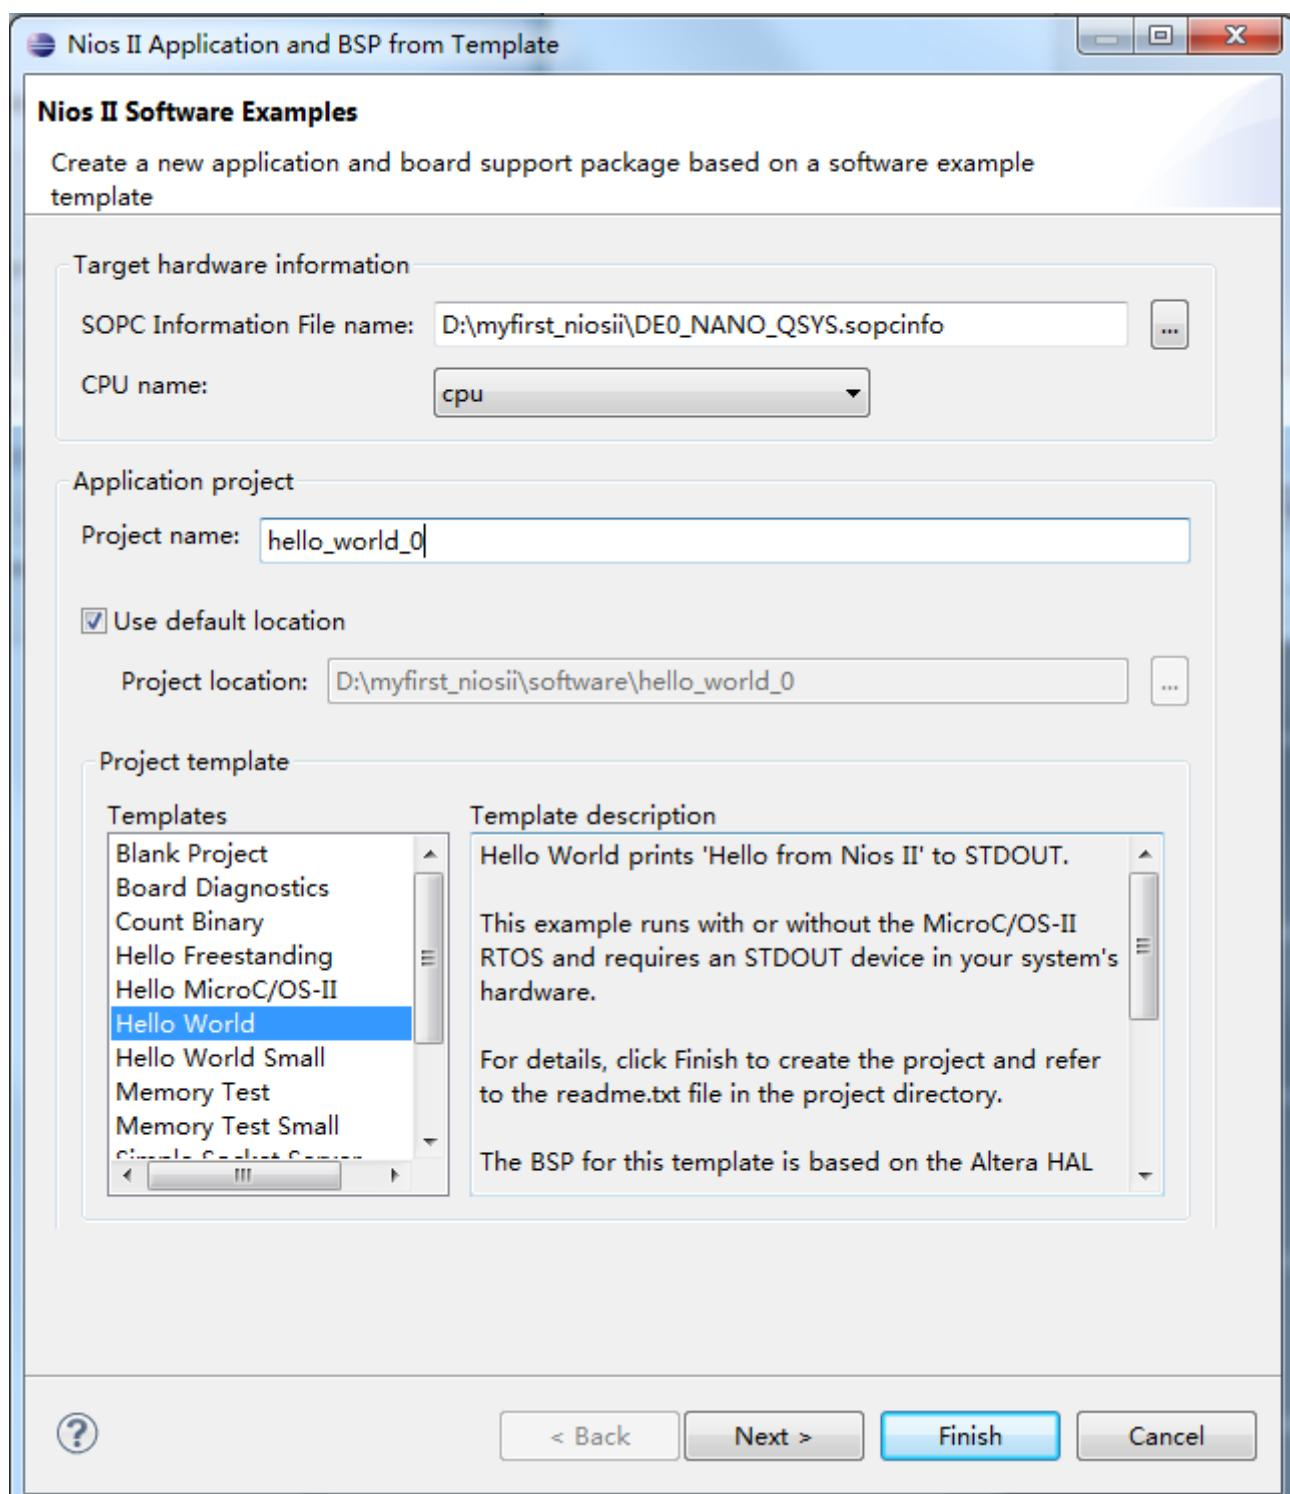

Figure 2-3 Nios II-Eclipse New Project Wizard
- Under Target hardware information, next to SOPC Information File name, browse to locate the <design files directory> where the previously created hardware project resides as shown in **Figure 2-3**.